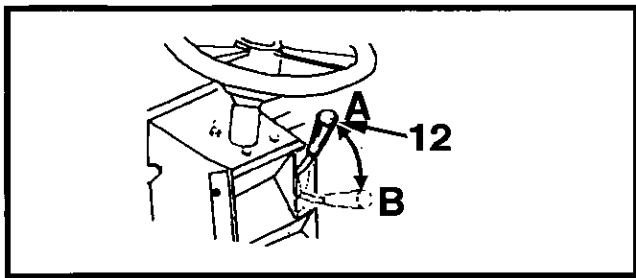

Figure 4-16 Engine Speed Control - B = HIGH IDLE
3. Position engine speed control to MAXIMUM OPERATING position 'B' (Figure 4-16).